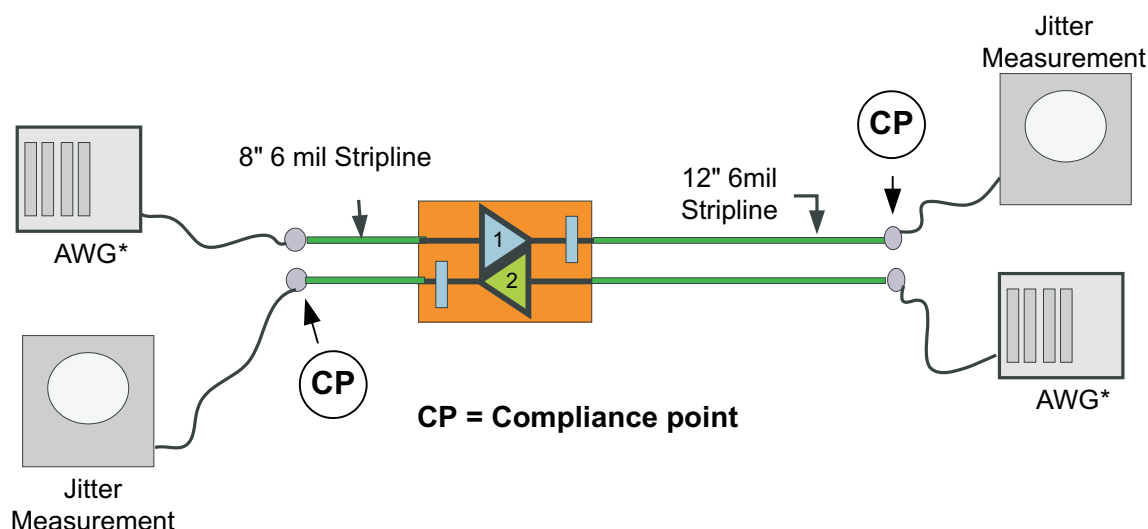

Figure 6. Jitter Measurement Test Condition
(1) $TJ = (14.1 \times RJ_{SD} + DJ)$, where RJ_{SD} is one standard deviation value of RJ Gaussian distribution. Jitter measurement is at the SATA connector and includes jitter generated at the package connection on the printed circuit board, and at the board interconnect as shown in Figure 6.